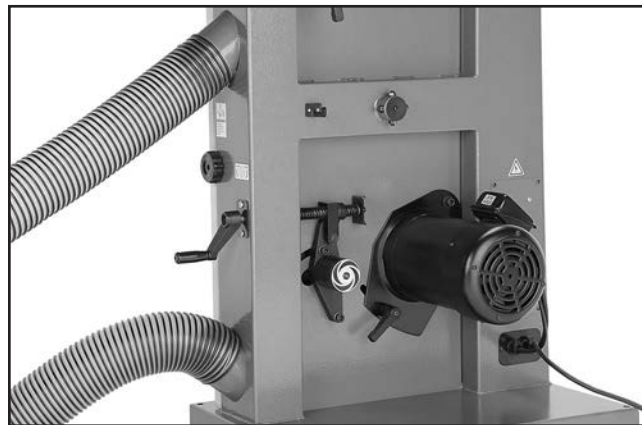

Figure 16. Dust hoses attached to dust ports.
- Fit a 4" dust hose or 4" adapter over each dust port and secure in place with hose clamps, as shown in **Figure 16**.